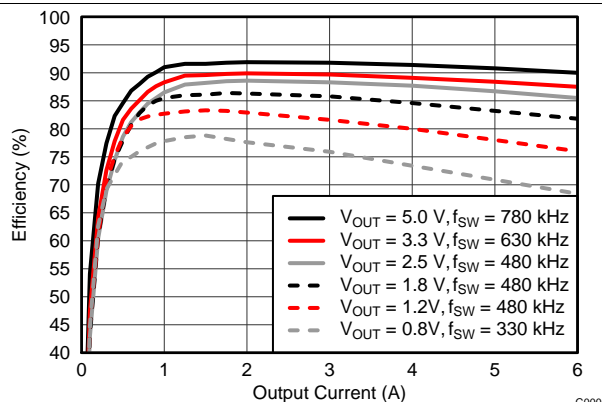
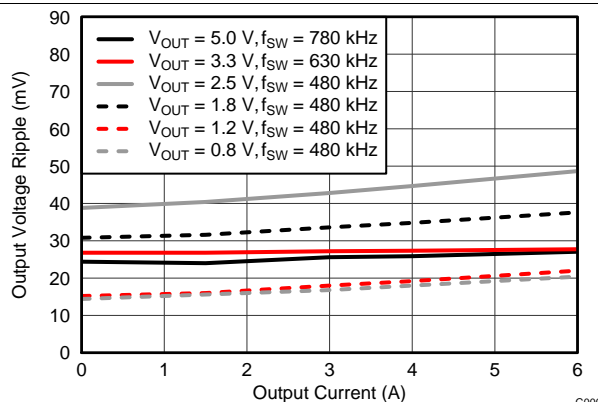
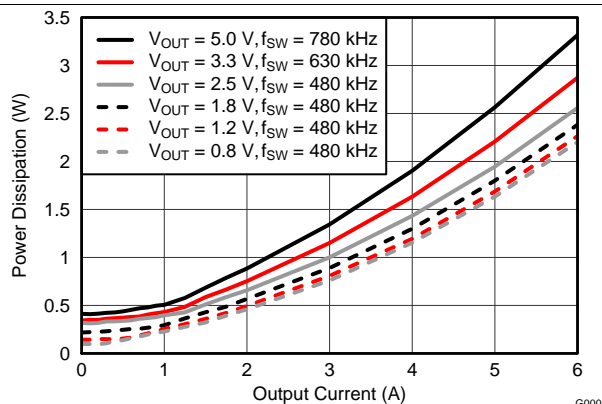

Figure 11. Efficiency vs. Output Current
Figure 12. Voltage Ripple vs. Output Current
Figure 13. Power Dissipation vs. Output Current
- (1) The electrical characteristic data has been developed from actual products tested at 25°C. This data is considered typical for the converter. Applies to Figure 11, Figure 12, and Figure 13.